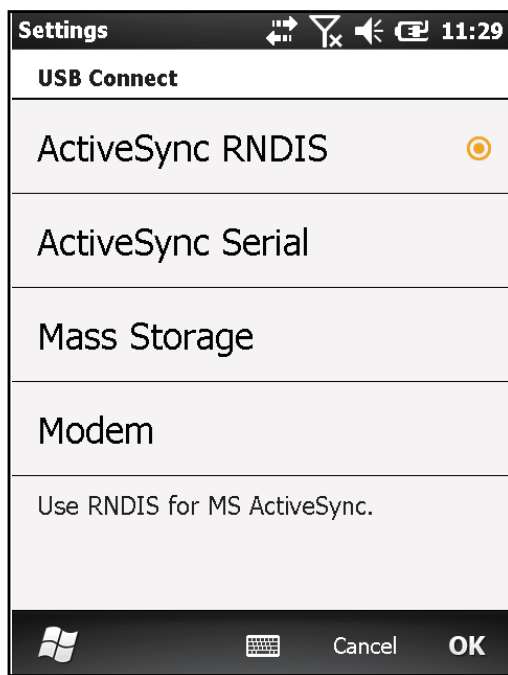

Figure 7-1 *ActiveSync over RNDIS Window*
5. The window shown in Figure 7-1 displays. Select **ActiveSync RNDIS**.